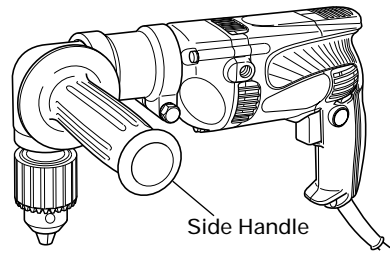

Fig. 12
- (3) Installing the side handle (Fig. 12)